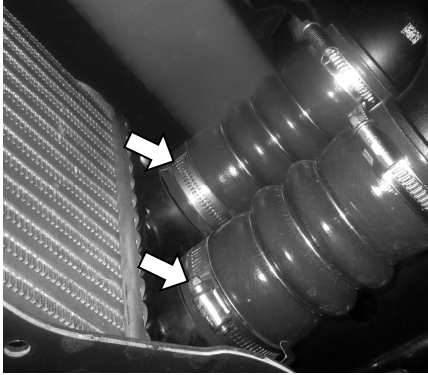

Figure 1
3. Loosen the hose clamps and remove the hose couplers from both intercooler inlets. **Refer to Figure 1.**